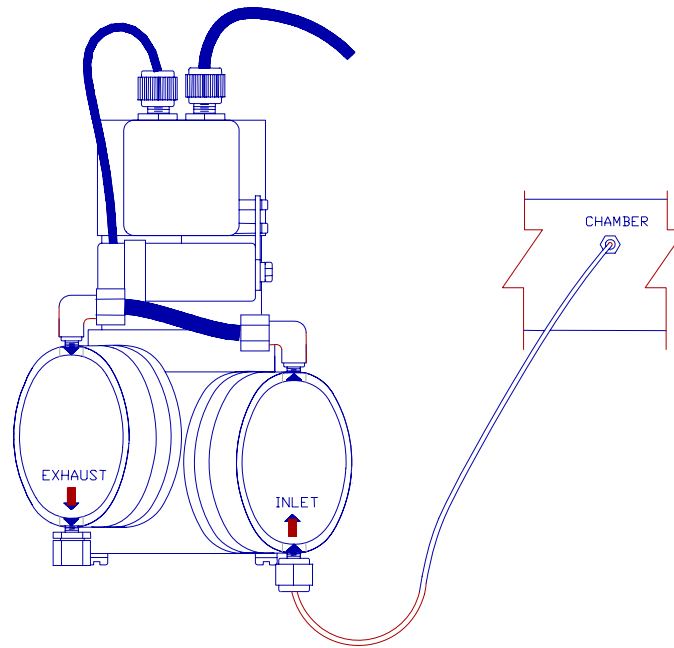

Figure 2-3. Twin-Head Vacuum Pump Installation
3. Connect the pump vacuum port (inlet) to the CHAMBER bulkhead (Figure 2-3).